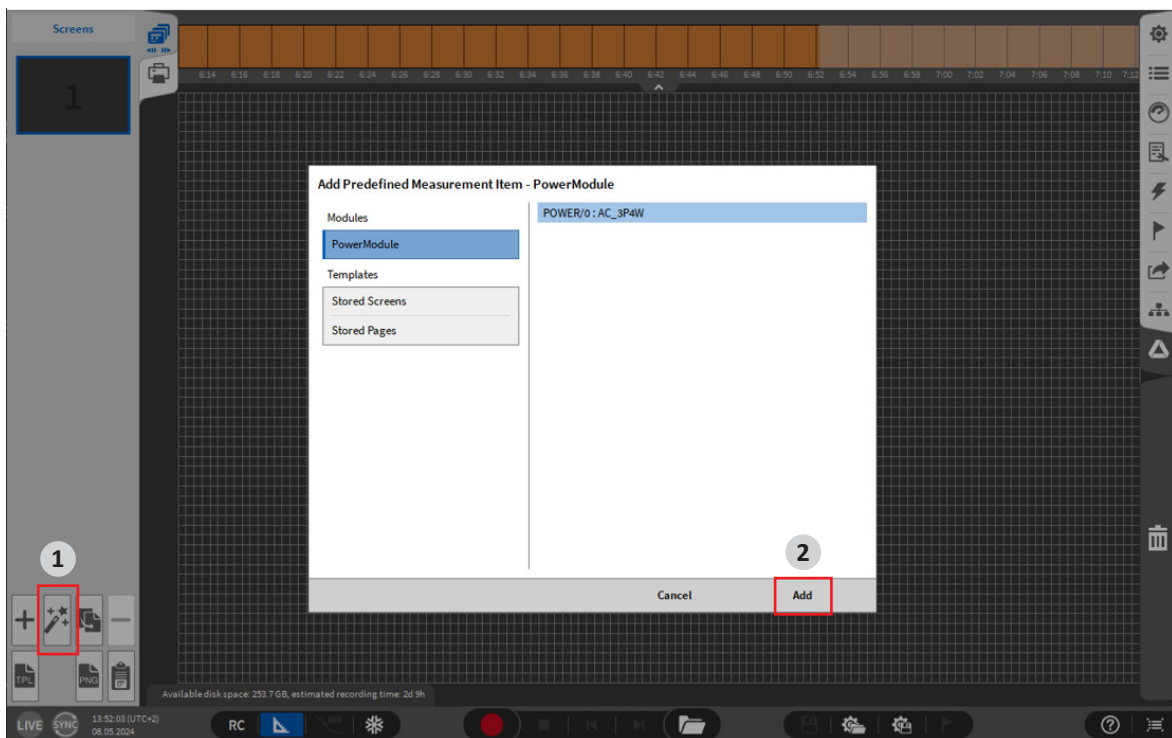

Fig. 26: Place the Power instrument with a template (1)
1. Open the screens overview and click on the magic wand symbol, see ① in Fig. 26.
2. Choose the desired Power Group and press “add”, see ② in Fig. 26.